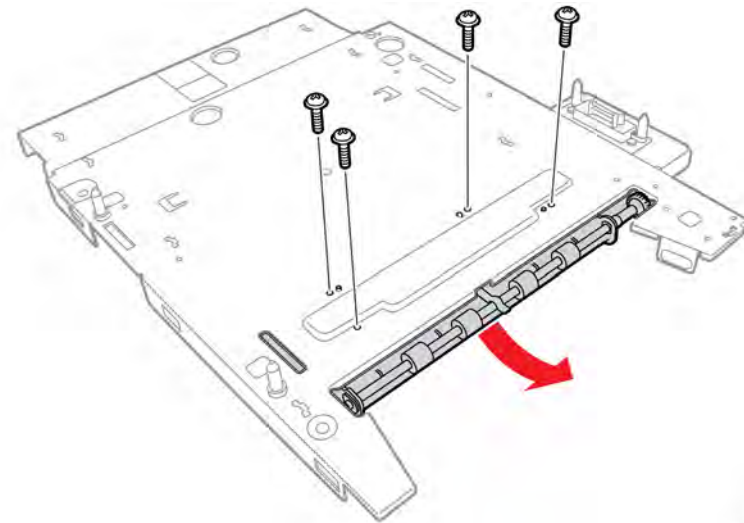

Figure 1 Remove the HCF Feed Assembly
7. Remove 4 (plastic) screws that secure the HCF Feed Assembly to the top plate, Figure 1.